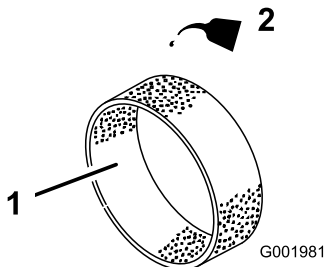

Figure 43
- Put one or two ounces of oil on the element (Figure 43).